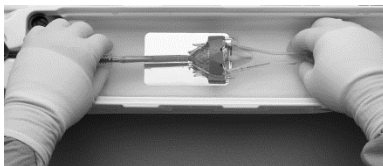

Figure 43
13. Remove the backplate and the catheter tip guide tube from the outflow cone (Figure 43).